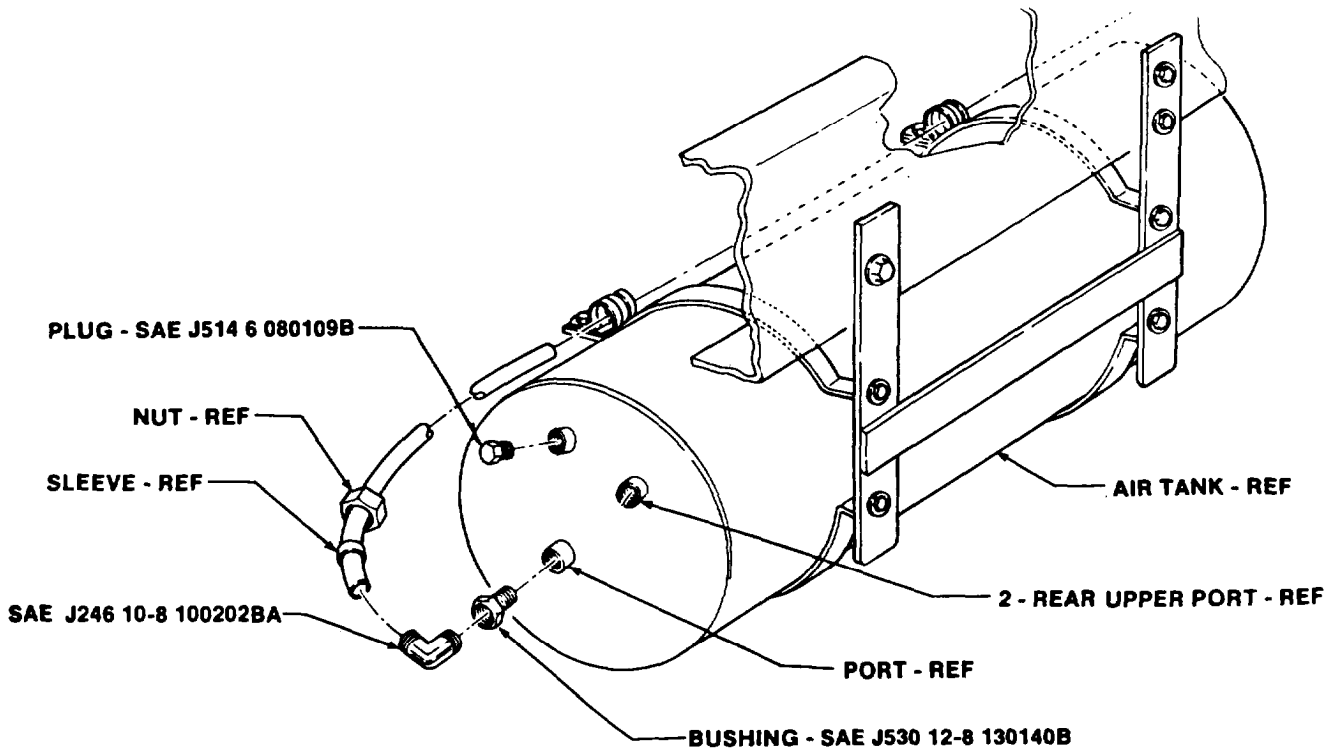

FIGURE 15
(12) Install two SAE J5146080109B plugs in rear upper ports on air tank as shown in figure 15.
(13) Install SAE J530 12-8130140B bushing in port on rear of air tank as shown in figure 15.
After installing elbow, ensure elbow is positioned as shown in figure 15.
(14) Install SAE J246 10-8 100202BA elbow assembly in bushing on air tank as shown in figure 15. Retain sleeve and nut for use in step 18.
(18) Route tube through two clamps and to elbow in rear of air tank, and install tube on elbow and secure with nut and sleeve as shown in figure 15 and 16. Sleeve and nut retained from step (14).